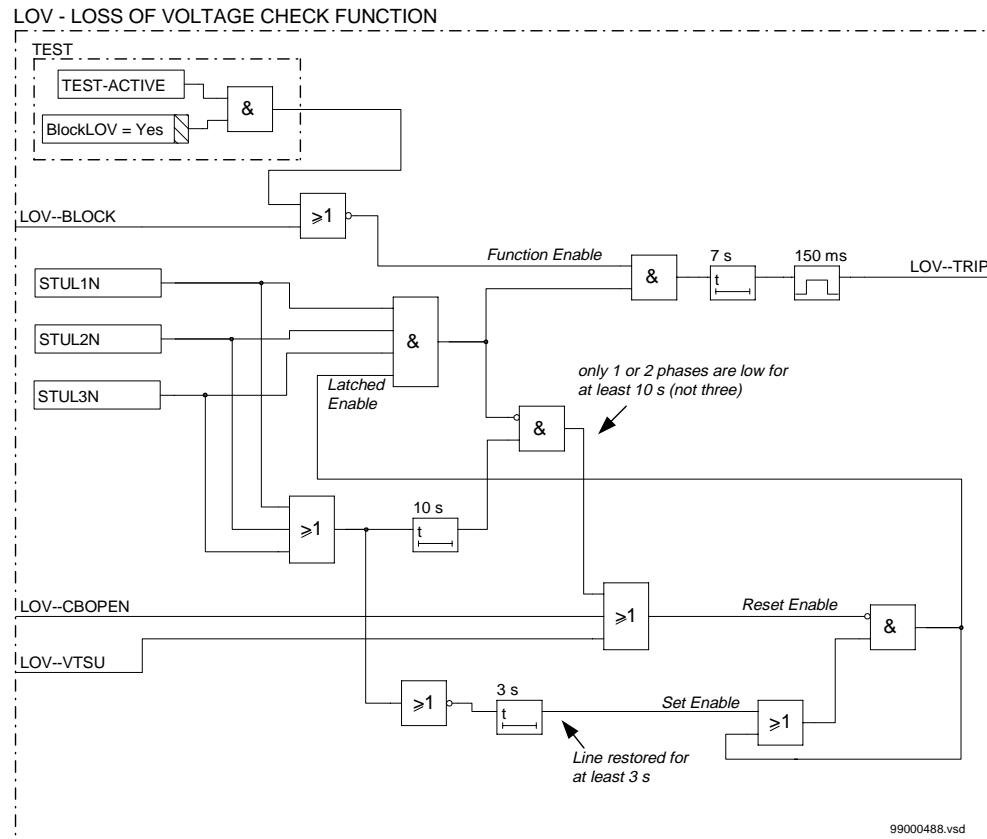

Figure 34: Simplified logic diagram of loss of voltage check protection function
The simplified logic diagram of the loss of voltage check function is shown in figure 34.
- enables the function (signal latched enable in figure 34 is set to 1) when the line is restored; i.e. at least one of the three voltages is high for more than 3 seconds (signal set enable in figure 34).
- disables the function (signal latched enable in figure is set to 0) if the signal reset enable in figure 34 is set to 1 (reset of latched enable signal).